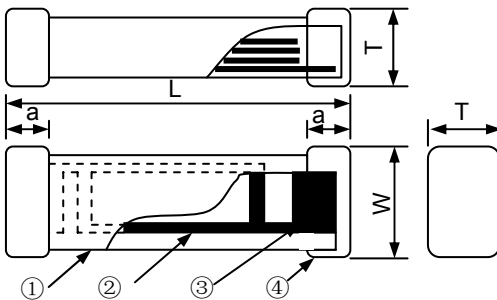
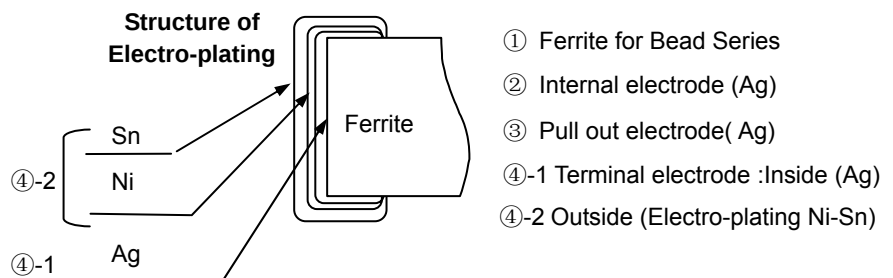

Fig. 5-3
Fig. 5-4
- 2) Structure: See **Fig. 5-3** and **Fig. 5-4**